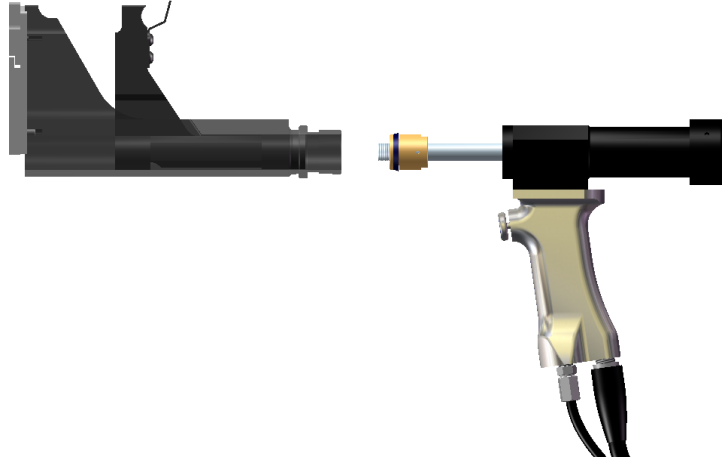

Figure 5-1
2. Thread the LB piston rod into the LBOA slide assembly, then thread the LBOA housing into the LB housing (Figure 5-1). Ensure the O-ring on the LBOA housing is seated at the LB housing.